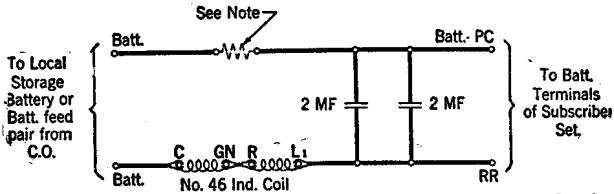

Fig. 1—634BD Subscriber Set (Battery Feed Filter)
3.01 Where one or more L.B.T. Anti-Sidetone stations receive transmitter battery supply from a common source such as from a local storage battery, rectifier or over cable pairs from a central office battery, a filter is necessary in each transmitter circuit. This filter is coded as a 634BD Subscriber Set. The connections for this set are shown in Fig. 1. Provision is made in the filter set to mount a resistance to control the value of the transmitter current as covered in Fig. 1.